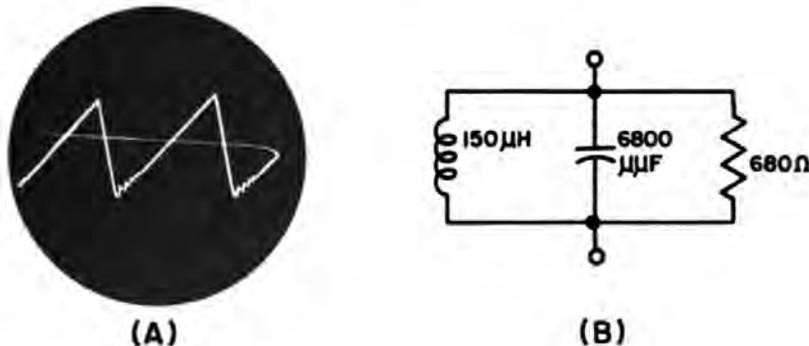

Fig. 7-13. (A) Ringing in sawtooth-current waveform. (B) Ringing filter.
horizontal adjustments are checked and found to be good. The current waveform in the horizontal deflection coil is observed with a scope (see the answer to *QUES. 7-16* for method) and a trace such as that illustrated in Fig. 7-13(A) is noted. What may be used to eliminate the ringing?
**ANS.** To eliminate ringing from the current waveform of a deflection coil, use a ringing filter similar to the one shown in Fig. 7-13(B). Connect this filter in series with the horizontal deflection coil.
**DISCUSSION.** The ringing filter indicated in Fig. 7-13(B) is resonant to approximately .5 mc. This filter can only be used to eliminate or reduce ringing that is present in the deflection coil current waveform. However, if the picture ringing is caused by improper peaking in the video amplifier section of the receiver, or by any other receiver trouble, this type of filter will be completely ineffective.